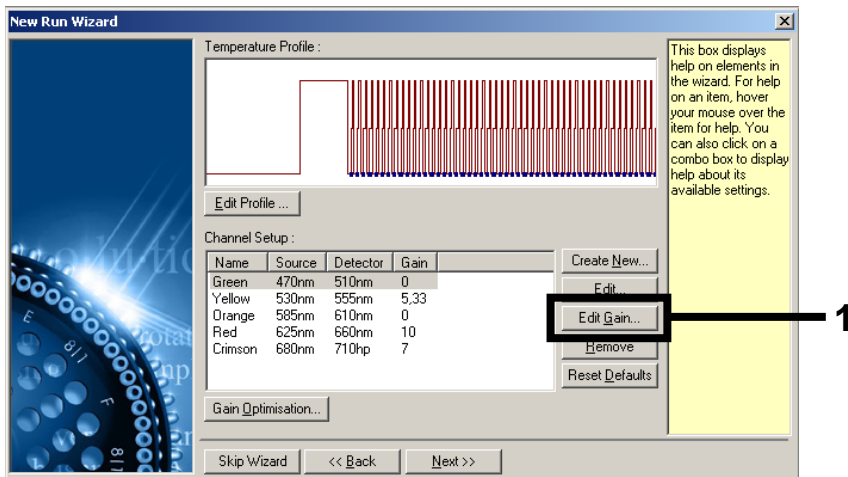

Figure 5. Editing the gain values manually.
6. Click **Edit Gain** to edit the gain values manually (Figure 5).